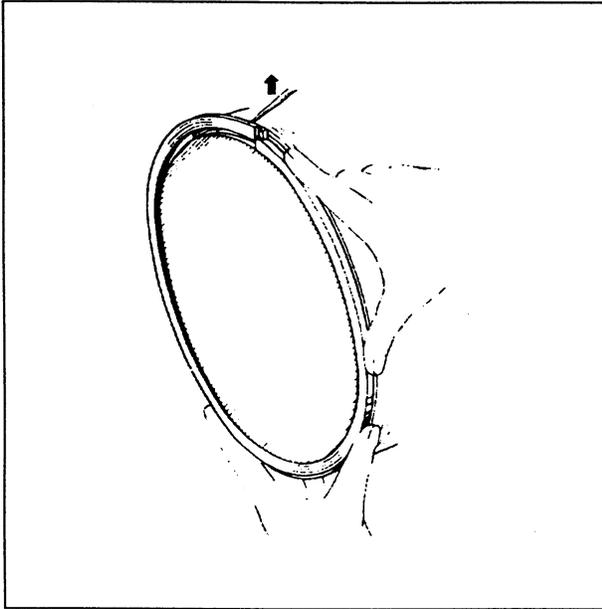

Fig. 1-3 Removal face sealing rings.
- press one end of the ring into its seat (Fig. 1-3);
- hold ring in position and insert a scriber point beneath the other side to separate the interlocking ends, as shown in figure (Fig. 1-3);